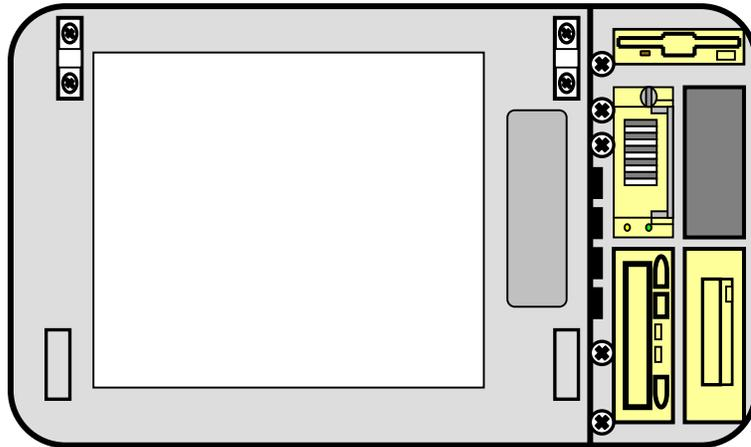

Figure 1-1. CCU2 Front Panel.
1. AFATDS is hosted at the battery/platoon level on the Compact Computer Unit 2 (CCU). The front panel of the CCU2 is depicted in Figure 1-1 and hardware capabilities are depicted in Table 1-1.